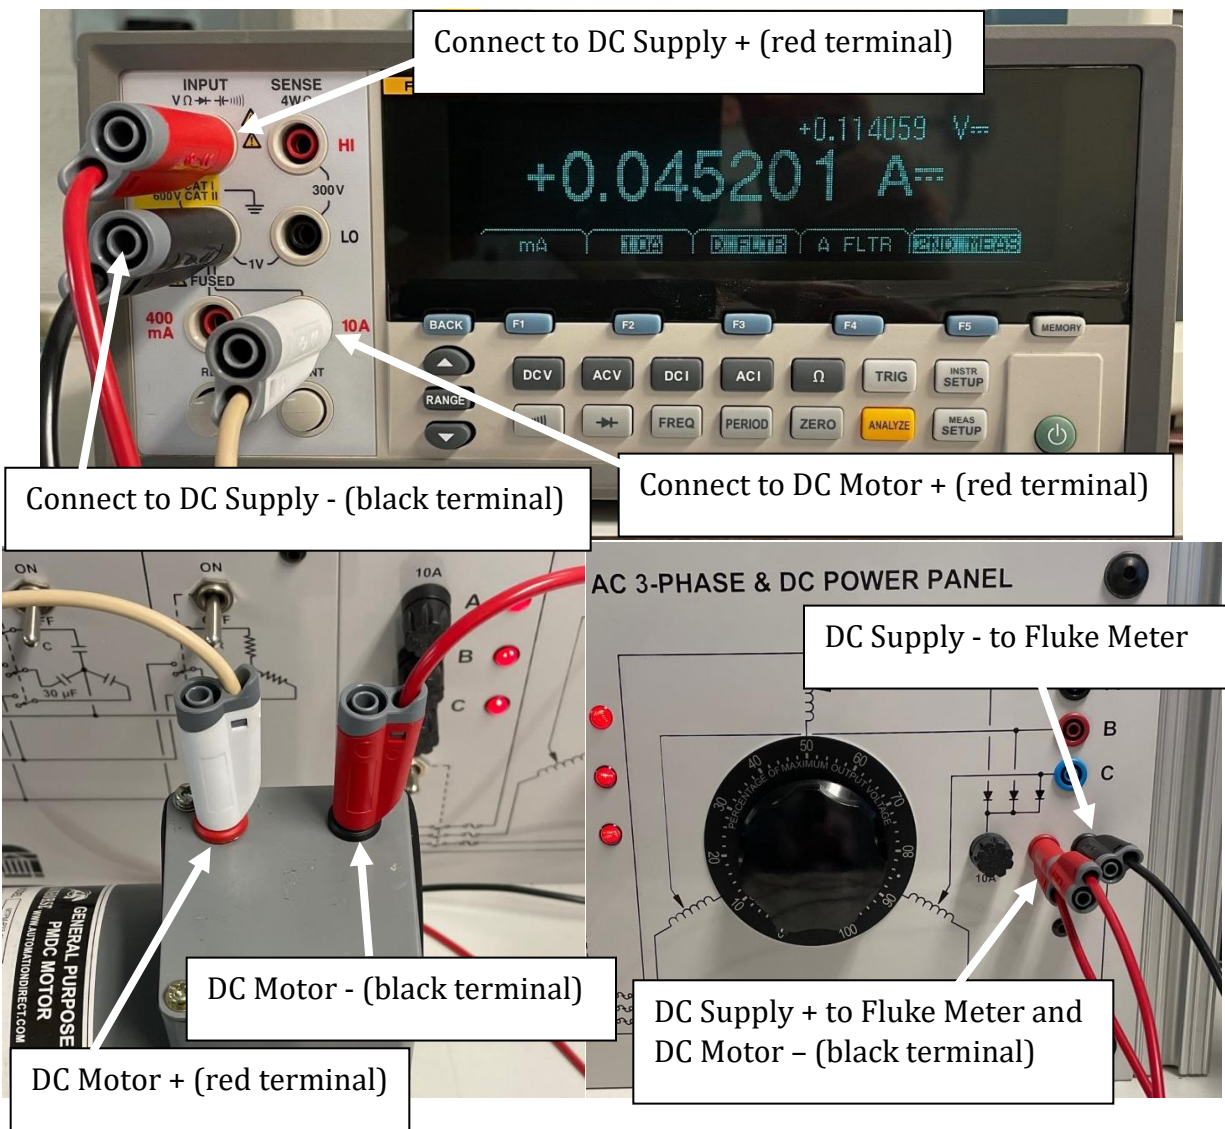

Figure 3
- 2) Now turn down the voltage on the AC machine and disconnect the leads. Connect the DC Machine to the DC power on the right 3-Phase power panel and Fluke meter as shown in Figure 3. We will use this to set the terminal voltage for the armature. Note that we are recording voltage and current simultaneously via the dual measurement mode.